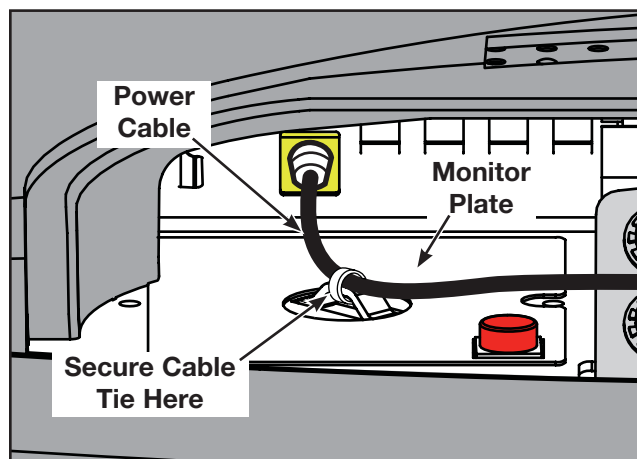

Figure 20
G. Secure the power cable to the monitor plate using the cable tie (G). See Figure 20.